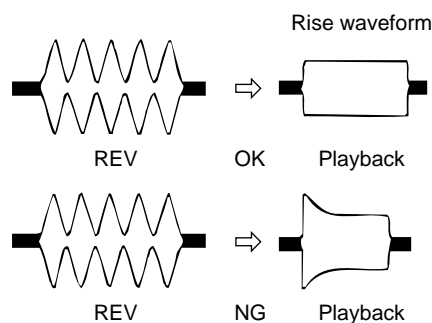

Figure 5
- 6 Unless the normal waveform is obtained (Figure 5), turn counterclockwise the upper flange (A) of Si roller, and repeat the step (5) above. Repeat the steps (5) and (6) until the normal waveform is obtained. At this time ascertain that the inlet travel does not change in the normal playback state. If any change is found, adjust the Sup GR, and redo the step (5).